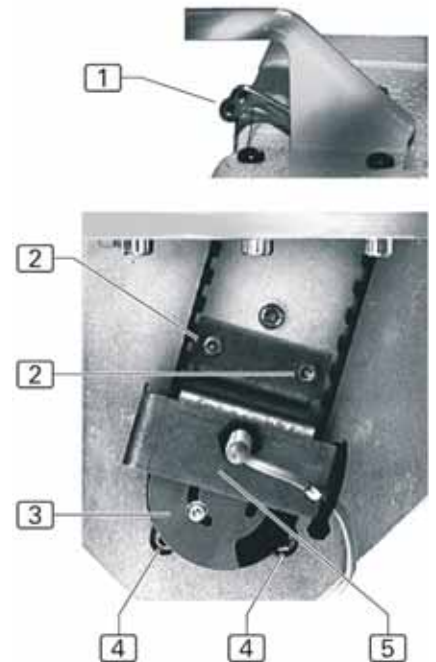

fig. 8
1. **fig. 8:** Remove belt guard [5] with initiator by removing both screws [2].